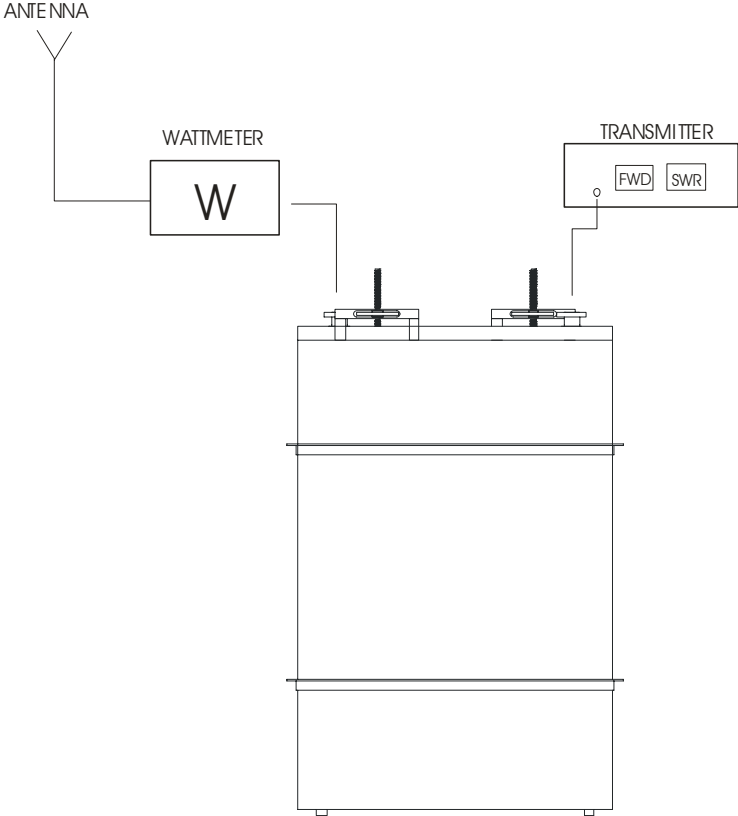

Fig. 2
- 2) To connect the filter to the transmitter, before with small power, to insert a wattmeter between the filter and the antenna. To set the filter to get the maximum power of measured output on the wattmeter and the least ROS measured on the transmitter. (Fig. 2)